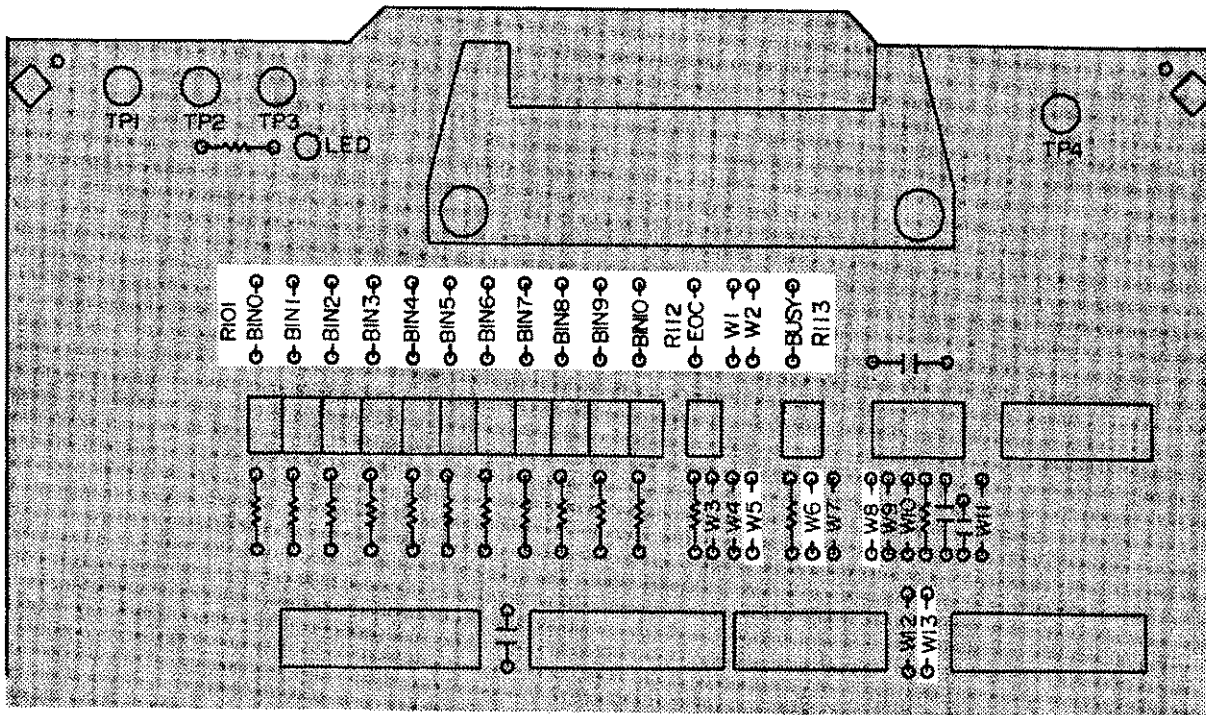

Figure 4-26. Palomar M16 Jumper and Pull-Up Resistor Locations
1. Configure the following interface signals by installing the jumpers as shown in Figure 4-26.
2. All I/O signals are TTL level so you must install all pull-up resistors to + 5V (install pull-up resistors **R101 ~ R113**). Refer to Figure 4-26 for the pull-up resistor locations.
3. Bring + 5V out through pins 12 and 17 of the handler interface rear panel connector (install a jumper at W1 for + 5V and at W2 for the **COMMON** connection). Refer to Figure 4-26 for the locations of W1 and W2.